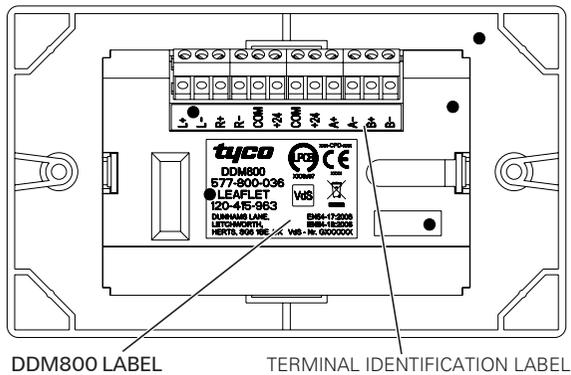

Fig. 4: DDM800 - Label positioning
- 2 Fit the DDM800 and terminal identification labels to the protective cover (see Fig. 4).